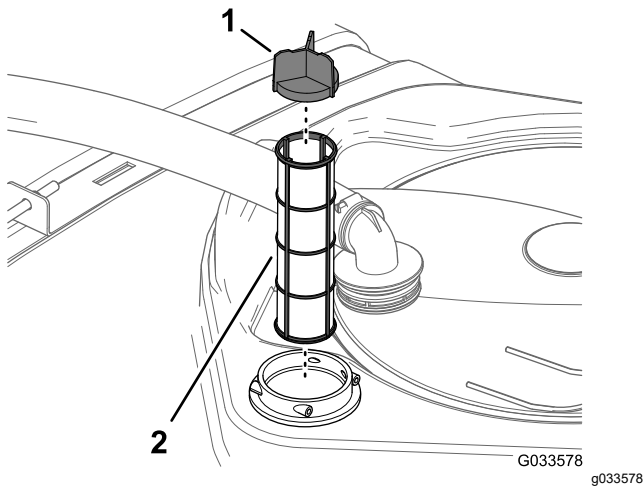

Figure 79
4. Pull the suction strainer out of the filter housing in the tank (Figure 79).